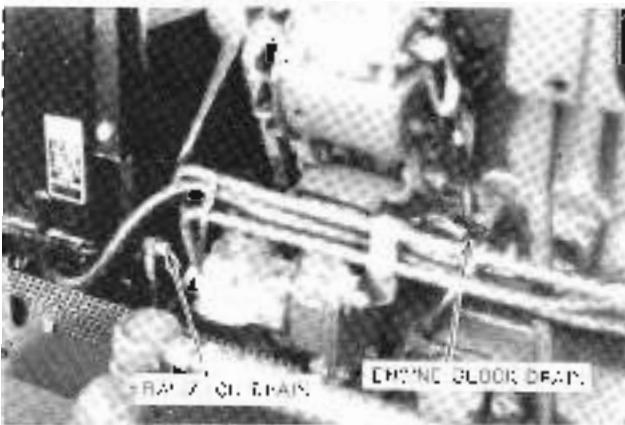

Figure 52 Radiator Drain Valve and Engine Block Drain Valve
- Park the vehicle and set the transmission between Neutral and the reverse block. The radiator drain valve is located on the bottom left side of the radiator. (Figure 52). The engine block drain valve is located on the left side of the engine. See Figure 52.